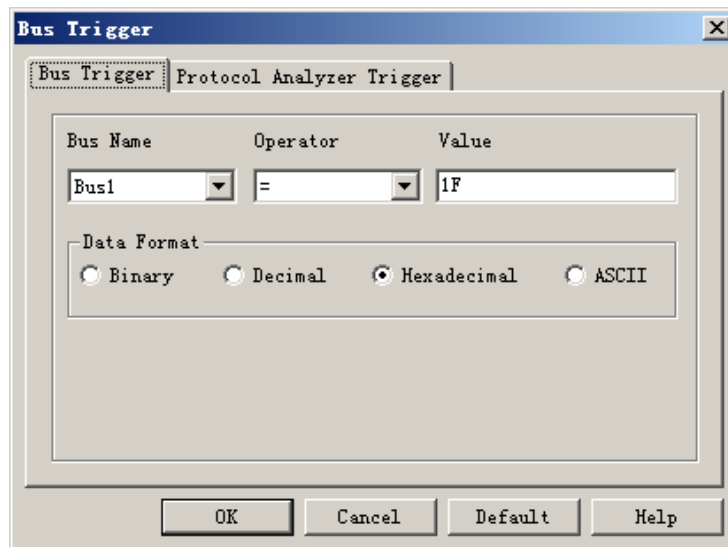

Fig 4-28 – Bus Trigger Setup
1. Highlight the Bus which will be triggered then click  icon or select **Bus Trigger Setup** from the Trigger of the Menu Bar, the dialog box as shown in Fig 4-28 will appear.
2. Set Binary, Hexadecimal, Decimal or ASCII as the Data Format of the Bus to represent the value (see Fig 4-28).